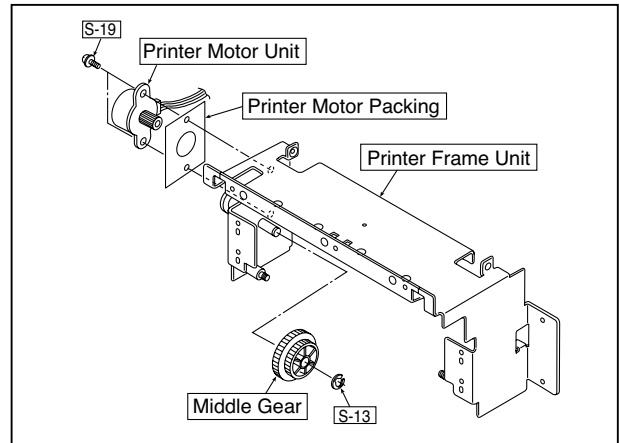

Fig.10
### 9) Remove the Printer Motor Middle Gear UNIT. (See Figs.10)
- 1.Remove the "S-19" screws shown in the figure 10 and then remove the Printer Motor Unit.